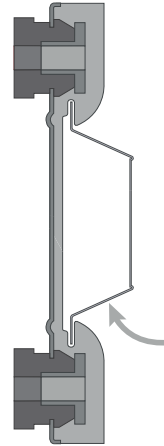

Figure 1
- ❑ Quickest installation is often achieved by pinching the Isobar bridge slightly, so that the Isoblocks can be clipped easily into position (figure 1).